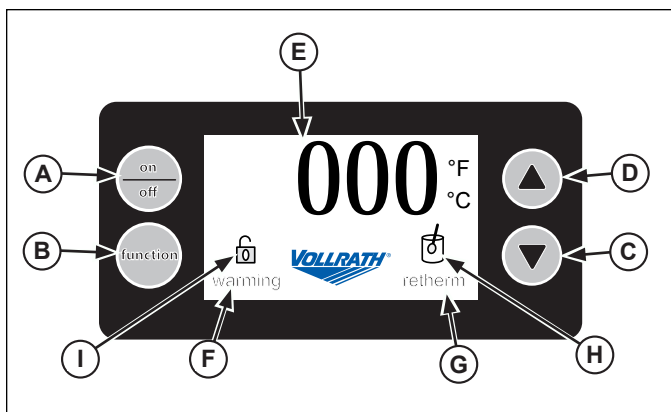

Figure 1. Control Panel
1. Press the ON/OFF button (A) to turn on the unit. See Figure 1.
2. Press the function button (B) to select the Retherm (Rethermalize), mode. The retherm light (G) blinks until the food product heats to temperature.
2. Press the function button (B) to choose °F to °C temperature on the display (E).
4. Press the arrow up (D) or arrow down (C) to select the temperature value program above 155 °F (68 °C). The warming light (F) blinks until the food product heats to temperature.
2. Press the function button (B) to select the preset program mode. Program choices are: Warming, Retherm (Rethermalize), or food types: Soup, C Soup (Cream Soup), Chili, and Mac (Mac and Cheese). The programs operate a predetermined temperature. Or, in the case of the Warming program it can be set to a specific temperature by the operator.
3. Press the arrow up (D) or arrow down (C) to select the temperature value program. The warming light (F) blinks until the food product heats to temperature.
4. While in the warming mode press the arrow up (D) or arrow down (C) to select temperature you desire. The warming cycle will reach and maintain that temperature until the temperature is reset again.
2. Press the function button (B) to change from °F to °C.
3. To lock the unit: At the same time press and hold the function button (B) and the arrow down button (C) until the lock light (I) appears. The control can not be changed until the unit is unlocked.
4. To unlock the unit: At the same time press and hold the function button (B) and the arrow down button (C) until the lock light (I) disappears. Or, turn the unit off and on again. The control can now be changed.